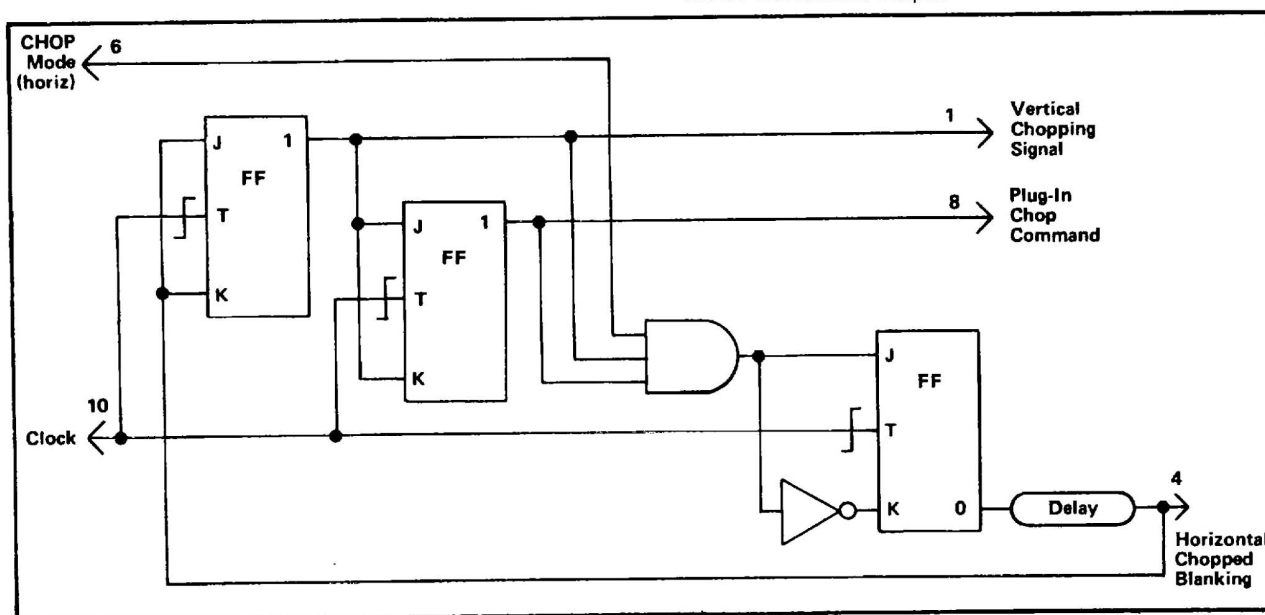

Fig. 3-19. Logic diagram of Chop Counter stage
A logic diagram of the Chop Counter stage is shown in Fig. 3-19. Details of operation for the flip-flops (FF) are shown in Table 3-1 at the front of this section. Use the waveforms given in Fig. 3-18B along with this diagram.